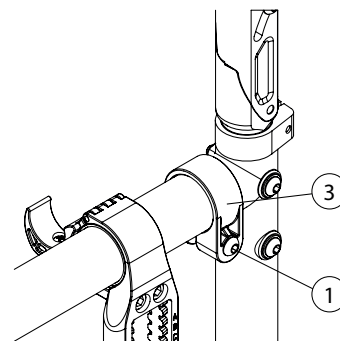

Fig. 14
- Reinstall screw (1) directly on the frame clamp (3) (Fig. 14)
- Tighten screw (1) until it is properly tightened.